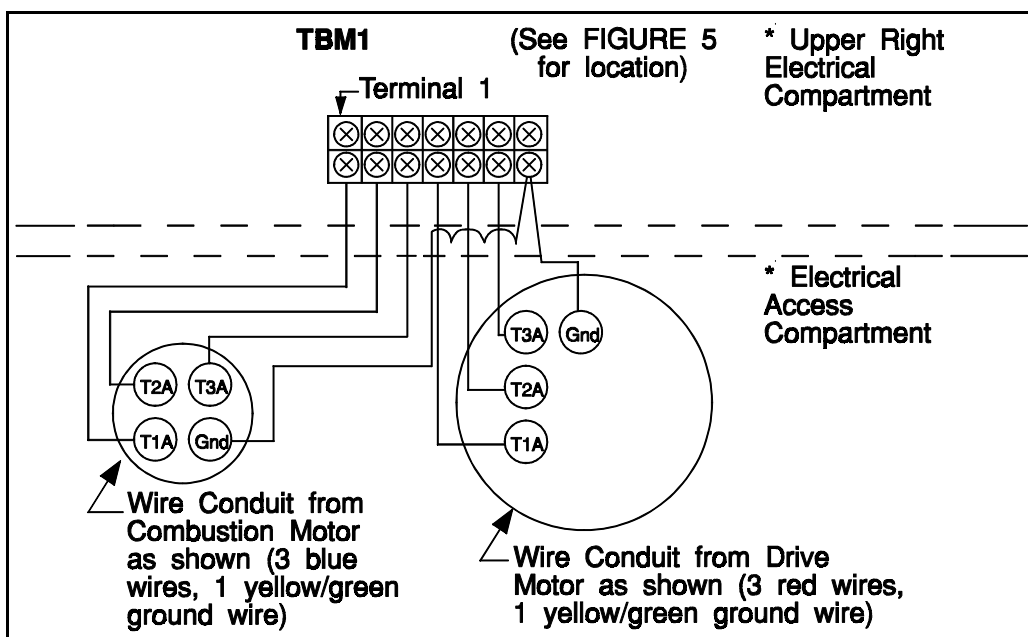

FIGURE 9 (MSIN0108AE)
- b. For machines with variable speed cylinder drive, make connections from the cylinder drive and combustion motor conduits (located in the Electrical Access Compartment) to TB1 (located in the Upper Right Hand Electrical Compartment) as shown in FIGURE 9.